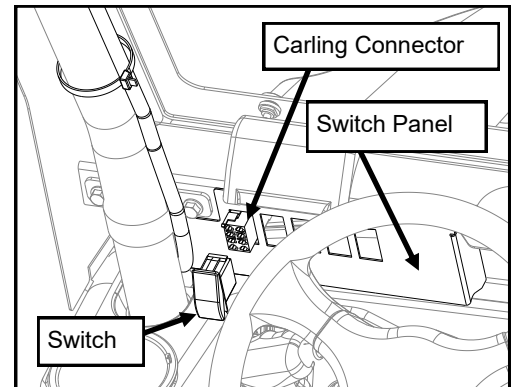

Fig. 2.3B
- 2.3 Route the Carling 8-pin connector (on provided wiring harness) through one of the rectangular cut-outs in the switch panel. Plug the Carling connector into the back of the switch. Snap the switch into the switch panel. (See Figure 2.3B). Install any additional accessories and then fasten the switch panel to the windshield.